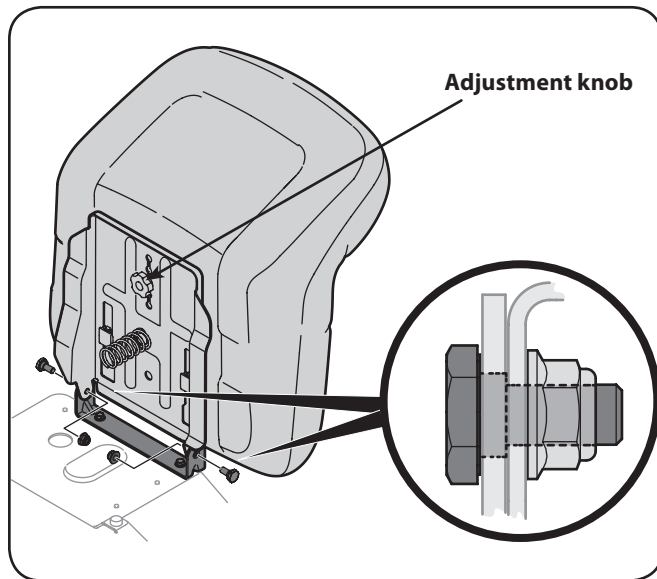

Figure 3-7
6. Install the two shoulder bolts and lock nuts removed from the seat mounting bracket in Step 1. See Figure 3-7.